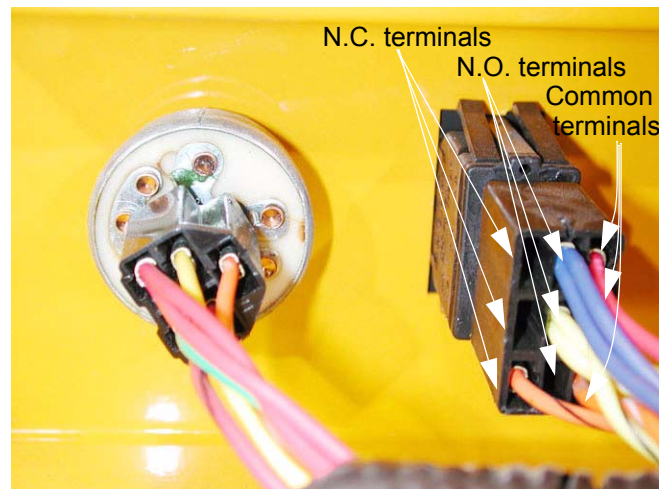

Figure 10.14
10.14. The key switch is located in the right side control console. The terminal locations are clearly marked on the back of the switch. The switch functions as follows: See Figure 10.14.